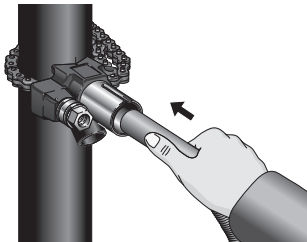

Figure 7 – Removing Residual Chips
9. Remove vacuum hose from drill guide and use vacuum to remove any residual chips from the guide tube and pipe. See *Figure 7*.